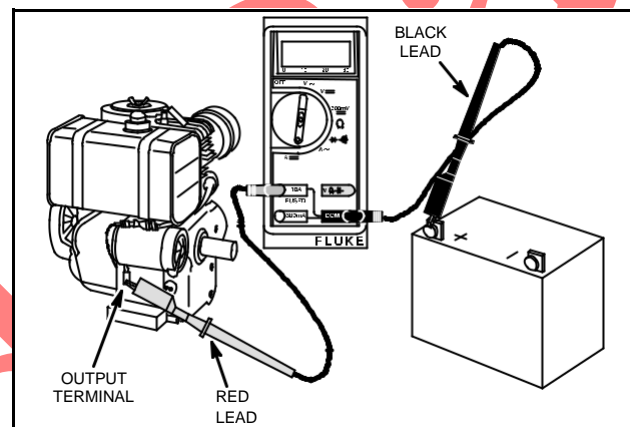

Fig. 757 – TESTING ALTERNATOR OUTPUT
4. Attach RED test lead clip to DC output terminal, Fig. 757.